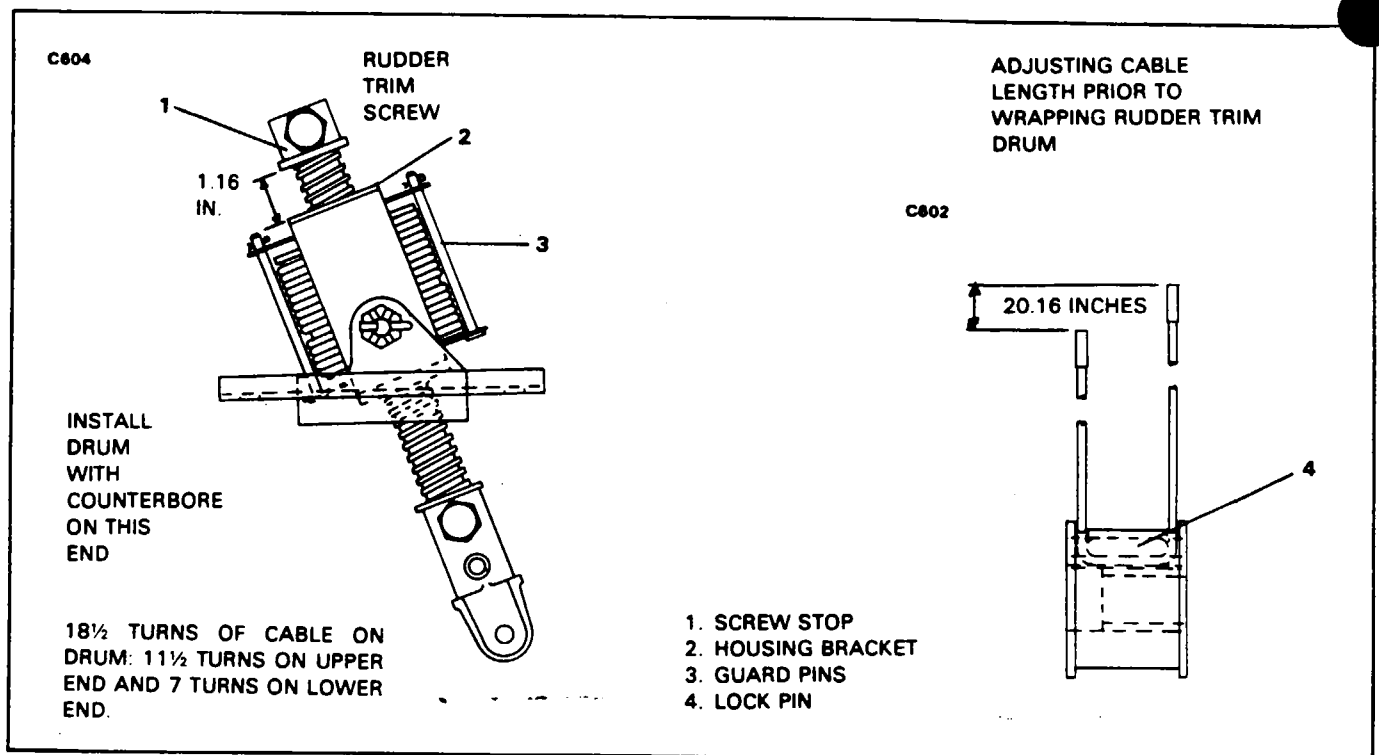

Figure 27-17b. Wrapping Rudder Trim Drum
WRAPPING RUDDER TRIM DRUM. (Refer to Figure 27-17b.)
- A. Insert the cable to the slot in the trim drum. There should be a 20.16 inch difference in the length of the unwrapped cable as it comes out of the trim drum. The shorter end of the cable should be that end which comes out of the lower end of the drum (the counterbored end). Refer to Figure 27-17b.)
8. Insert the drum in the housing bracket, position the drum and route the cables from the assembly as shown in Figure 27-17b.